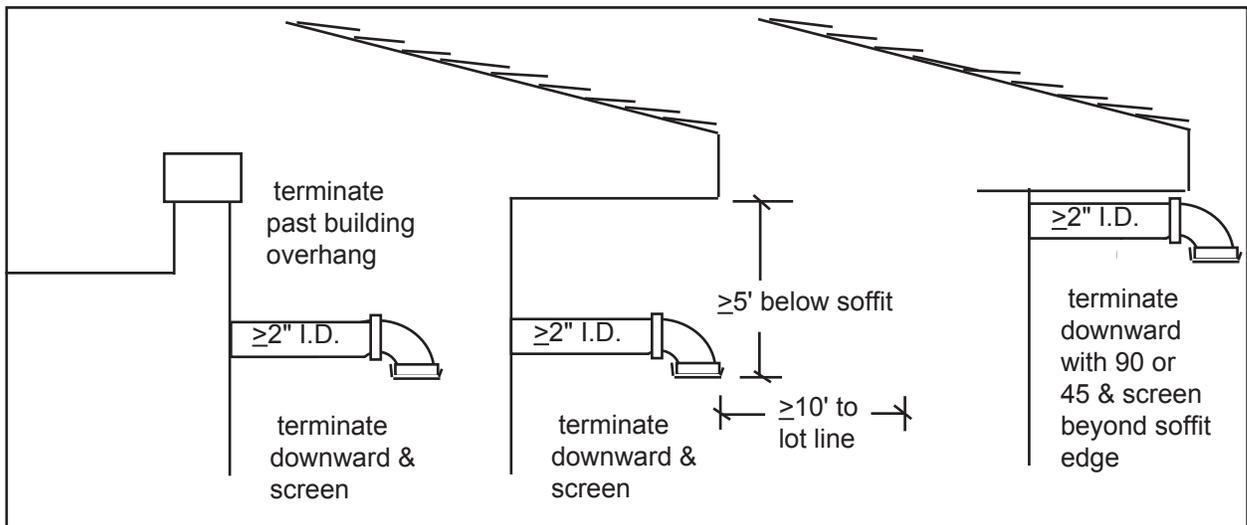

Figure 52. Vent terminal installation through exterior wall
A vent may terminate through an exterior wall when installed in accordance with s. 82.31 (16) (d) and figure 52.